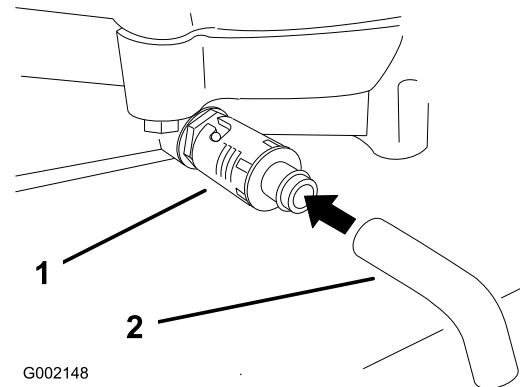

Figure 21
4. Place a pan below the drain. Rotate the oil drain valve to allow the oil to drain (Figure 21).